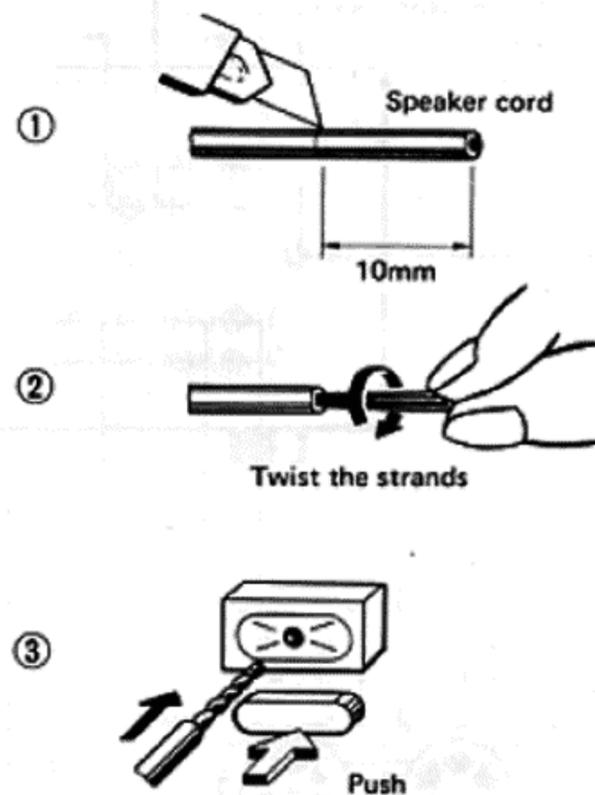

Fig. 2
Processing and connecting the speaker cords (Fig. 2- ① ~ ③)